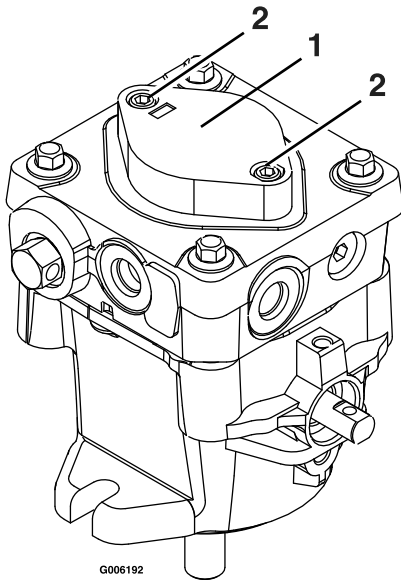

Figure 15
If either drive wheel does not rotate, one or both of the charge pumps (located on the top of the main pump as shown in Figure 15) may have lost their “prime”. Refer to **Hydraulic System Air Purge** section.
The critical area for purging air from the hydraulic system is between the oil reservoir and each charge pump located on the top of each variable displacement pump (Figure 15). Air in other parts of the hydraulic system will be purged through normal operation once the charge pump is “primed”.
5. **Make sure engine is not running.** To “prime” charge pump, loosen two hex socket head capscrews (shown in Figure 15) **1 1/2 turns only**. Lift the charge pump housing upward and wait for a steady flow of oil to flow out from under